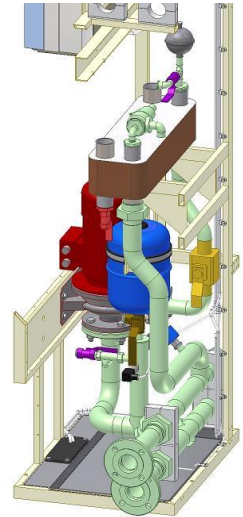

Figure 5.1-10
- Valves V161...V162 open (violet colour in Figure 5.1-10)
- Valve V160 lever down (brown colour in Figure 5.1-10)
- Valve V140 closed (yellow colour in Figure 5.1-10)